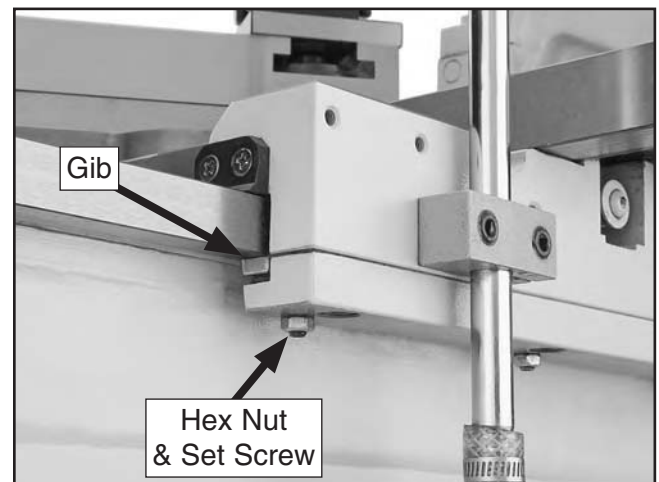

Figure 121. Saddle gib and controls.
3. Loosen the three hex nuts, then the three set screws that secure the gib (see **Figure 121**).